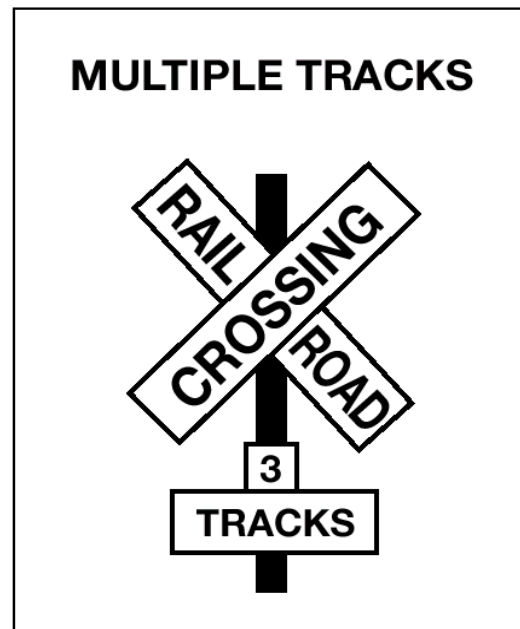

Figure 2.17
**Crossbuck Signs.** This sign marks the grade crossing. It requires you to yield the right-of-way to the train. If there is no white stop line painted on the pavement, vehicles that are required to stop must stop no closer than 15 feet or more than 50 feet from the nearest rail of the nearest track. When the road crosses over more than one set of tracks, a sign below the crossbuck indicates the number of tracks. See Figure 2.17.